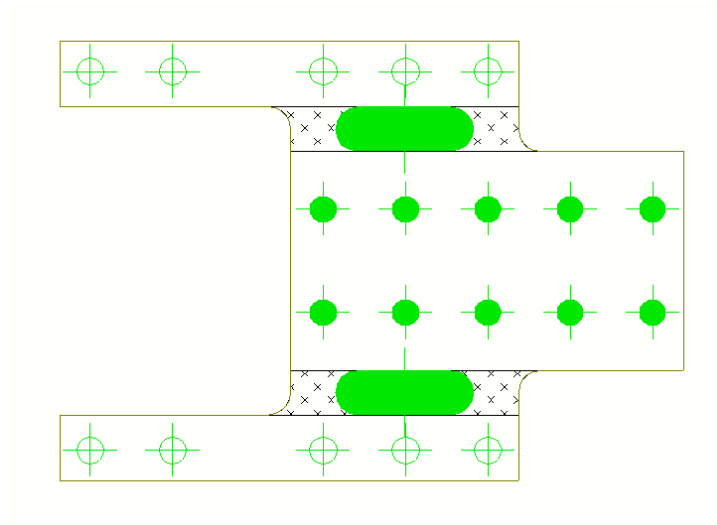

Figure 6-3. Fuse Plate Hatch
- Open the **Document Manager** and the newly created fuse plate drawing. The hatch will show up, as shown in Figure 6-3.